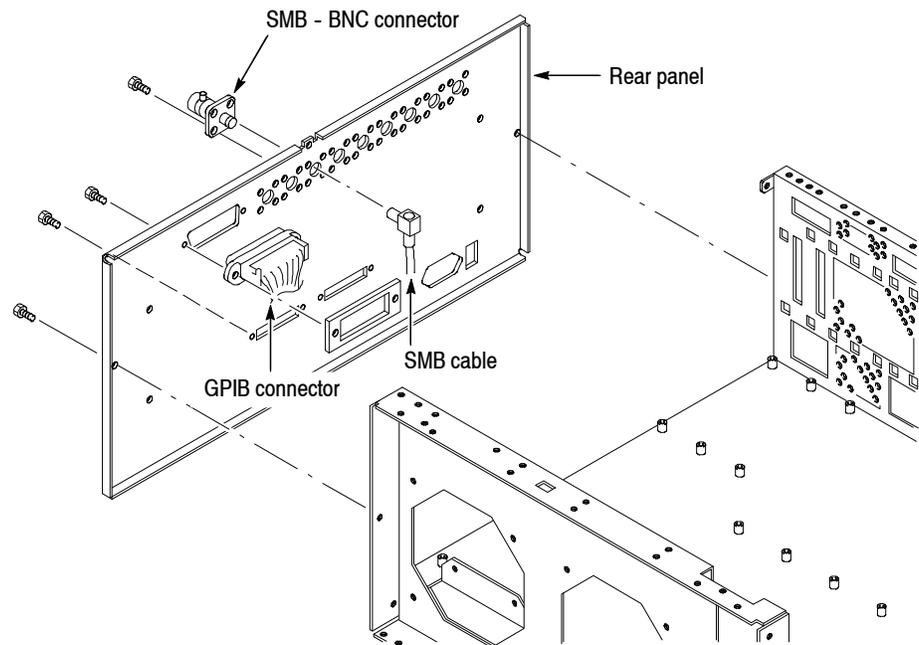

Figure 5-33: Rear panel removal
3. *Remove the SMB-BNC connector:* See Figure 5-33.
- 4. *Remove the GPIB connector:*** See Figure 5-33.